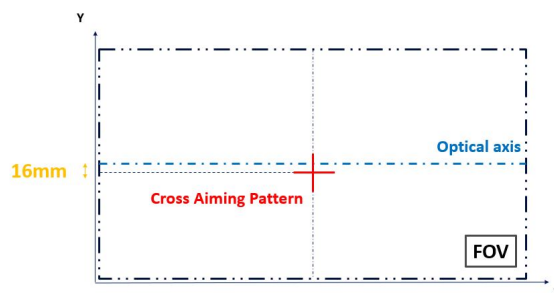

Figure 8 - Cross Laser Pattern
2. Place a **single code** in front of the reader at the correct reading distance for your application (see the Global FOV Diagrams, starting on page 126 for reference). **The center of the cross is 16 mm (14 LEDs model) or 30 mm (36 LEDs model) under the optical axis**, as shown in Figure 8.